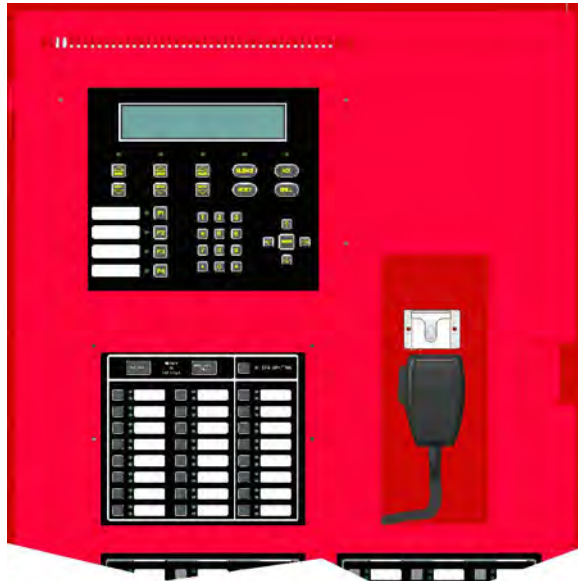

Figure 4.58 Hang Microphone on to Microphone Clip
1. Clip the microphone into the microphone clip. See Figure 4.58.